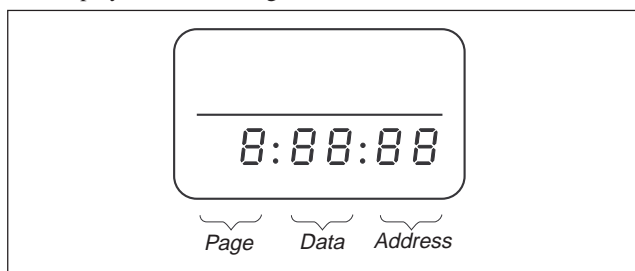

Fig. 5-4-1.
- 2) Set the HOLD switch of the adjustment remote commander to "HOLD" (SERVICE position). If it has been properly connected, the LCD on the adjustment remote commander will display as shown in Fig. 5-4-1.